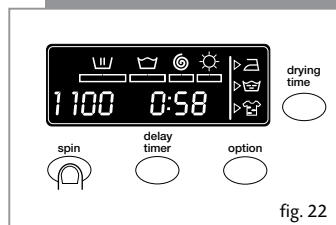

fig. 22
- You can reduce the spin speed or remove it completely by pressing the spin button (Figure 22).